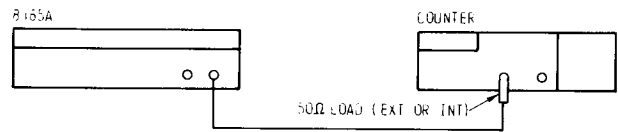

Figure 4–1. Test Setup for Frequency and Burst
- Connect equipment as shown in Figure 4–1